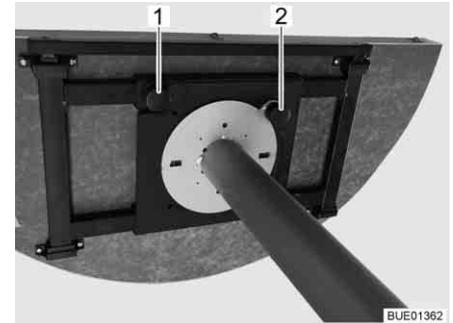

Fig. 113 Adjusting mechanism
- Loosen knurled screw (Fig. 113,1).
- Raise the adjustment knob (Fig. 113,2).